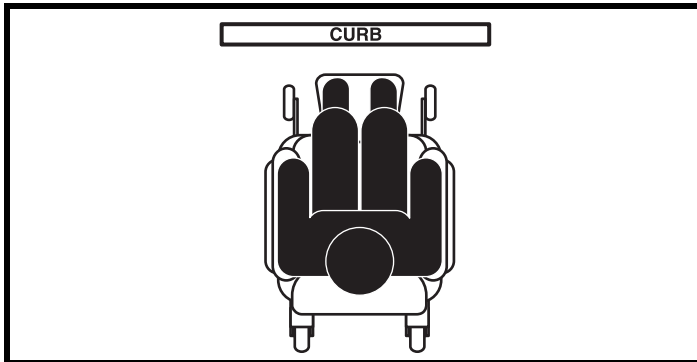

Figure 1. Correct Curb Approach
1. Approach the curb or obstacle slowly, and make sure the power chair is traveling perpendicular to the obstacle. See figure 1.